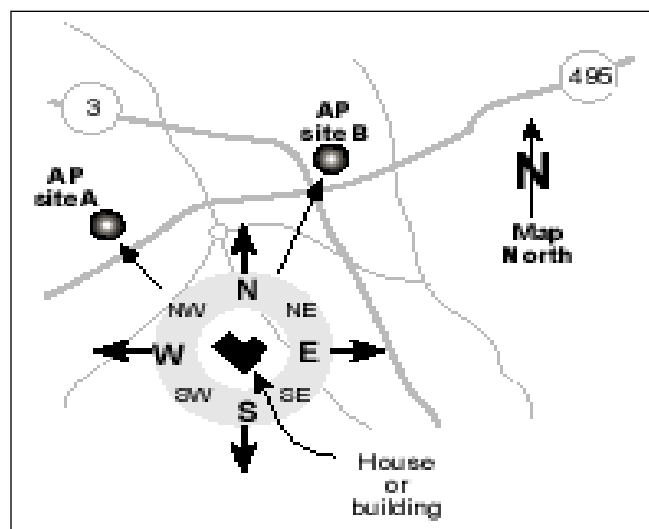

Figure 2-3 Aligning the Compass and Map
5. Rotate the map, keeping the compass stationary, so the *map's* North Indicator aligns with the North Indicator of the *compass* (see Figure 2-3).
6. Write down the directions (compass bearings) of your Access Points. For example, in Figure 2-3, Access Point A is located northwest of the building and Access Point B is located between north and northeast. (If you can be more accurate than this, you will get better reception when you install your outdoor transceiver.)